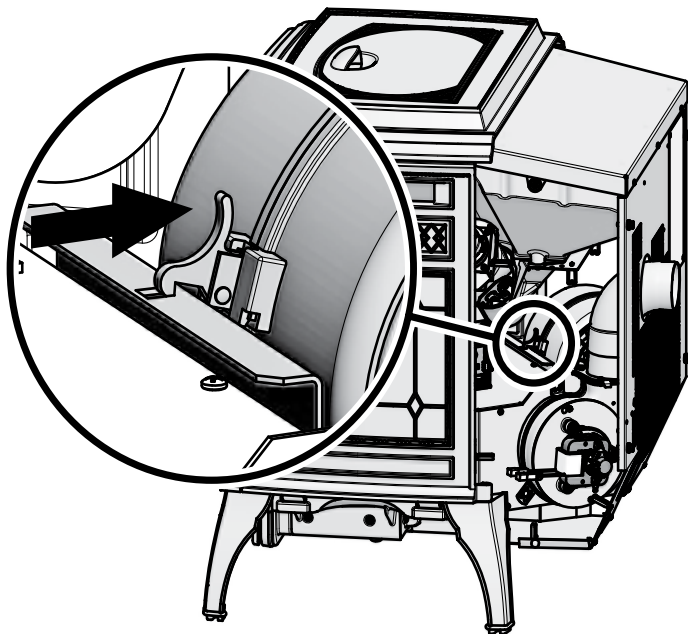

Figure 20.1
2. Remove the left side panel by loosening the 2 screws using a Phillips head screw driver or wrench (**Figure 20.1**).
5. Reach behind the blower and release the latch by pushing the top of the latch towards the blower (**Figure 20.1**).
8. When the blower is properly positioned the latch will engage the notch to hold the blower in place (**Figure 20.1**).